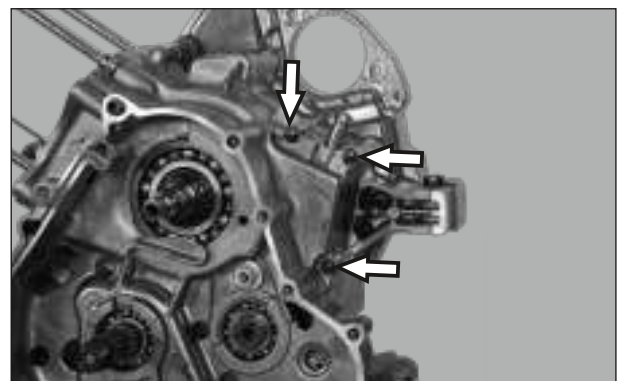

Fig. 3.80
- Loosen & remove the 3 nos. hexagonal flange bolt of M6X50 from crankcase RH. (Fig. 3.80)